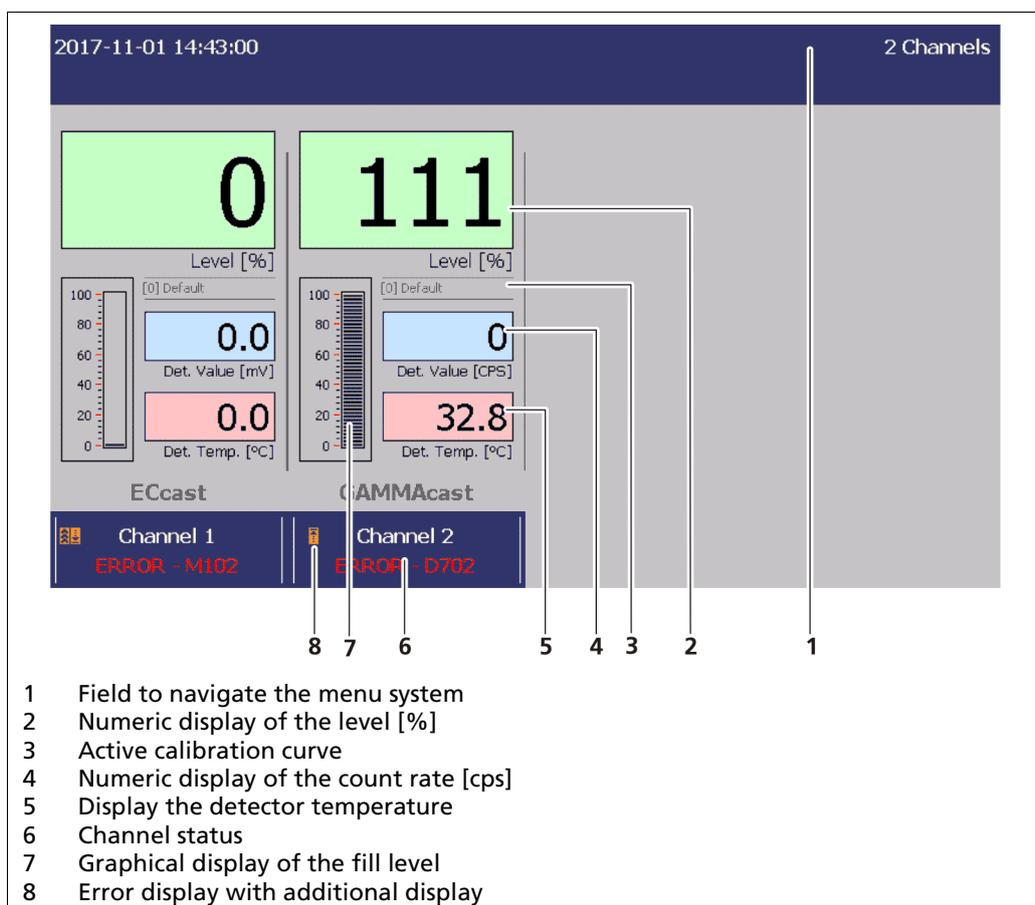

Fig. 15 Standard display of the EVU
When the system is fully up and running, the start page of the measurement system is displayed (Fig. 15). The display varies depending on which measurement channels are installed. For example, two measurement channels are shown in Fig. 15.
Click on the top blue bar (Fig. 15, Item 1) to reach the system menu (chap. 6 „The System Menu“). Under the display for the measurement channels, there is a button that leads to its respective "Channel Overview" menu (see chap. 7 Main Menu).
Positions 2 to 8 provide graphical information about the fill level (Fig. 15, Item 2), the detector temperature (Fig. 15, Item 5), and the count rate (Fig. 15, Item 4).
In case of failure, the error or warning number is displayed (Fig. 15, Item 6). All castXpert LB 452 error messages have the prefix "M" and all detector error messages have the prefix "D". In addition, the following additional information is displayed:
- Identification of the calibration curve selected (Fig. 15, Item 3)
- Channel status (Fig. 15, Item 8)
To reach the system menu, click on the top blue bar on the standard display (Fig. 15, Item 1).